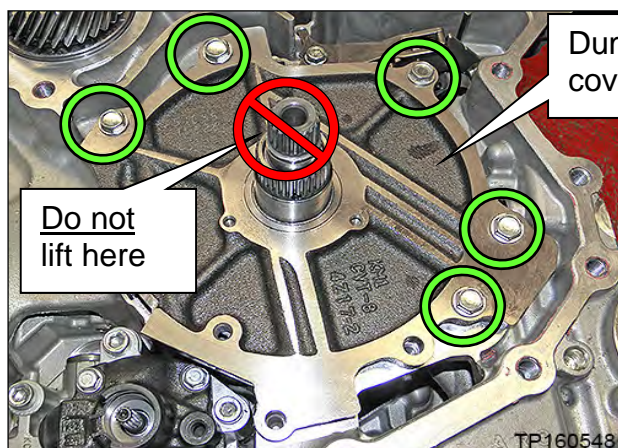

Figure 50
28. Remove the five (5) dummy cover bolts, and then remove the dummy cover. See Figure 50.
- Lift the dummy cover from the sides **ONLY**. Do **NOT** lift from the input shaft (Figure 50); this can lift the clutch pack out.